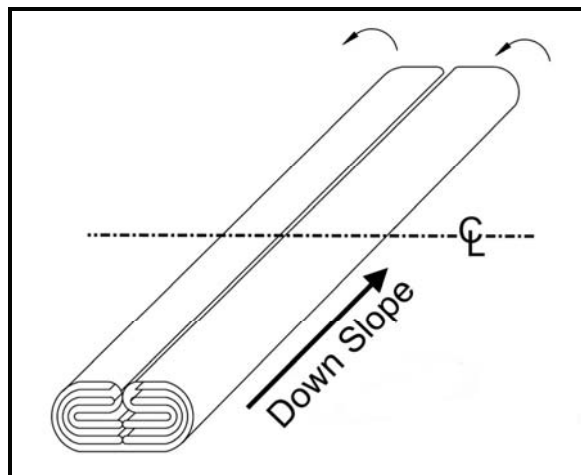

Figure 19. Rolling the berm liner.
7. Roll one end to center (Figure 19).